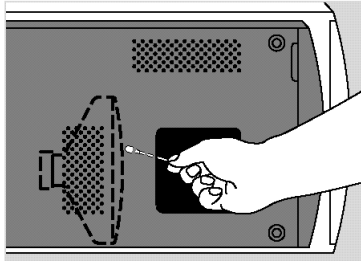

Figure 2-14. Cleaning the CRT face through the bottom access door
4. Carefully reach in and remove the dust on the surface of the CRT with a dry cotton swab (Figure 2-14). Avoid touching the filter wheel and filters.